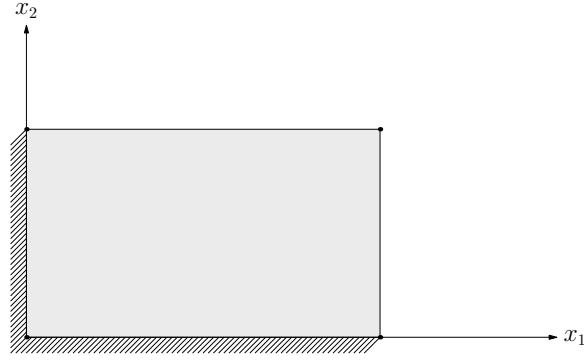

Figure 3: Rectangular plate
6. A rectangular loaded plate is clamped along the  $x_1$  and  $x_2$  axes (see Fig. 3). On the basis of measurements, the strain components are determined as:
subjected to the following boundary conditions from Fig. 3 as